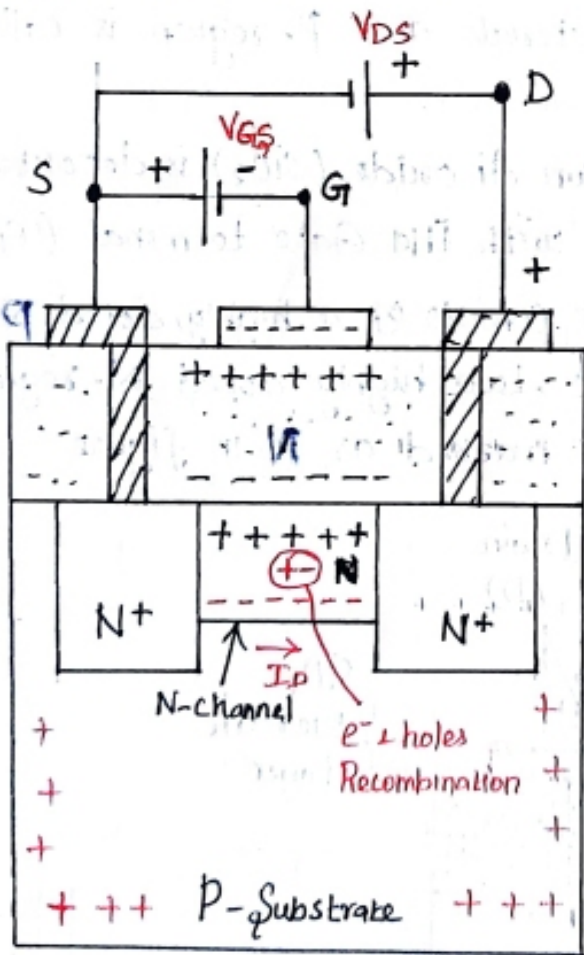

Fig. 2. Depletion Mode of D-MOSFET (Decrease)
* Electrons \ominus will recombine with holes \oplus and the Number of free electrons in the "N-channel" will decrease thereby reducing the amount of Drain Current (I_D) in fig. 2. [depletes the Channel]